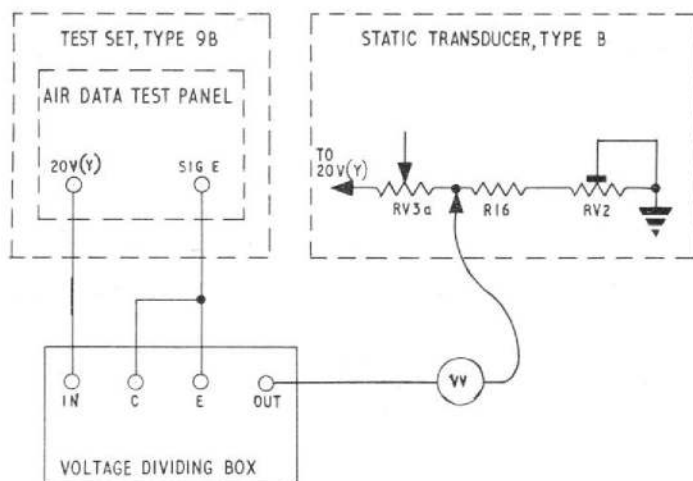

Fig. 3. Test connections for log S calibration—post-mod. ADS/75
11. Connect the valve voltmeter set to the 300mV range between terminals B and G of TB1 (Chap. 11, fig. 3) with the earth terminal of the meter connected to terminal B. Connect terminals B, H and J of TB1 together. Set PCU mains and switch S1 (test set, Type 9B) to ON and S4 to HT 4T. Turn the 200T gear of axis 2 until G1 registers 200 divisions. Holding axis 2 steady, adjust RV103, if necessary, until the valve voltmeter registers  $24\text{mV} \pm 4\text{mV}$ . Release axis 2 and repeat.
(2) Release and swing clear the transistor amplifier as per Appendix 4, para. 11 without disturbing the cable connections.
(3) Connect a shorting link between the junction of RV3a and R15 and the 20V(Y) side of RV4.
(4) Connect up subsidiary test equipment as shown in fig. 3.
(5) Set the voltage dividing box to a ratio of 0.3307, switch test set, Type 9B S1 to ON and adjust RV2 until the valve voltmeter indicates a null.
(6) Remove the shorting link across R15 and RV4, and disconnect the wander lead.
(7) Set the controlled static pressure to 1013.2 mb (pitot/static test set, Mk. 3) or zero feet height (ADS test set, Type B).
(8) Ensure that the cam follower of CUIA mechanism is resting at a point  $\frac{1}{8}$  in. clockwise (when viewed from the top) of the small dip in cam profile. If the cam follower is incorrectly set refer to para. 24.
(9) Connect the wander lead of the subsidiary test equipment to the junction of RV3a and R15, set the divider box to 7450 and adjust RV4 until the valve voltmeter indicates a null.
(10) Disconnect the wander lead from the junction of RV3a and R15, connect it to T1 INPUT on the ADTP of test set, Type 9B and set S4 to LOG S.
(11) Release the three 6BA screws clamping RV3, set the voltage divider box to 7338 and turn RV3 until the valve voltmeter indicates a null.
(12) Disconnect the wander lead from T1 INPUT and repeat the procedure of sub-para. (9), (10) and (11).
(13) Refasten the three clamping screws ensuring that the valve voltmeter remains at the null while doing so, and remove subsidiary test equipment.
(14) Carry out the ranging tests of Appendix 1 in respect of LOG S.